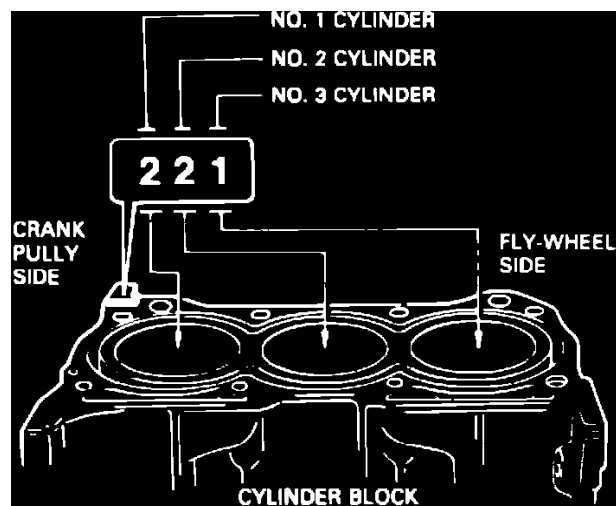

**Fig. 20 Measuring rod bearing side clearance**
6. Install connecting rod on its journal and check that side clearance does not exceed .0137 inch, **Fig. 20**. If so, replace connecting rod.